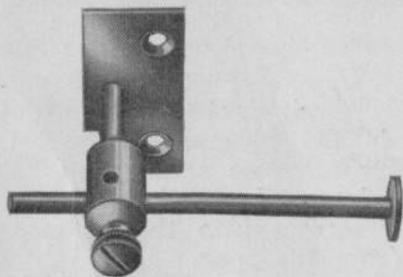

FIG. 62
*e. Sewing Raised Seams with Cord Insertion:* This operation requires the use of the regular zig-zag needle plate which is normally installed on the machine. Also attach to presser bar the two needle presser foot with the five wide grooves. Furthermore the cord reel holder, shown in fig. 62, must be screwed to the underside of the sewing machine table.